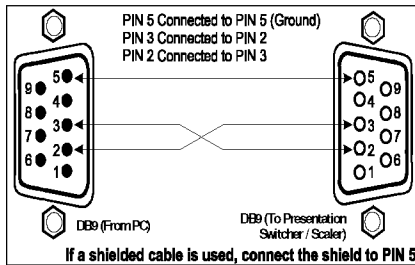

Figure 4: Connecting the PC
- Connect the RS-232 9-pin D-sub port on your PC to the RS-232 9-pin D-sub rear panel port on the **VP-727A** unit, forming a cross-connection², as Figure 4 illustrates